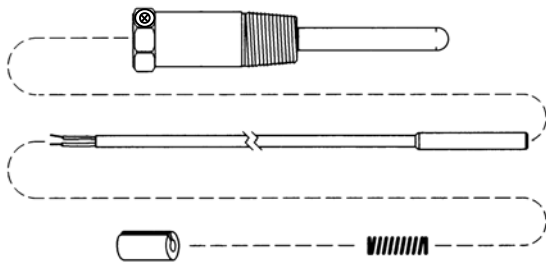

Figure 8: Insert Sensor, Spring, and Bushing
6. Insert sensor, spring, and bushing into well, so that at least one-half of the bushing is inserted into the well, as shown in Figure 8 (bushing will compress spring).